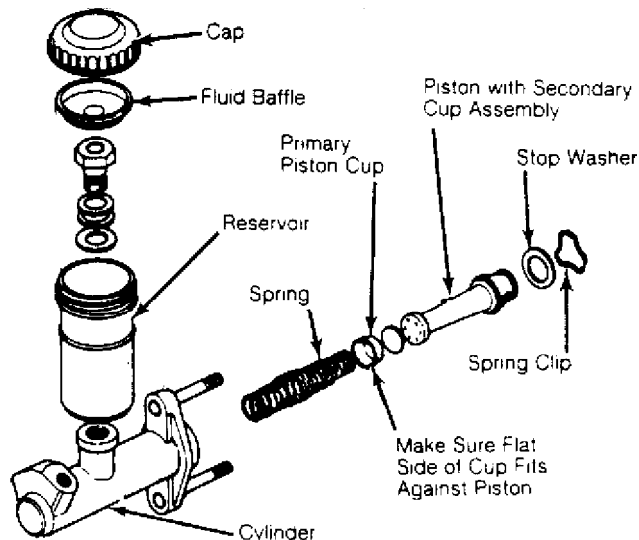

Fig. 2: Exploded View of Clutch Master Cylinder
2) Remove piston stop ring, washer and piston assembly. Separate piston, cups and return spring. See Fig. 2. Clean parts in denatured alcohol or brake fluid. Blow dry with compressed air.